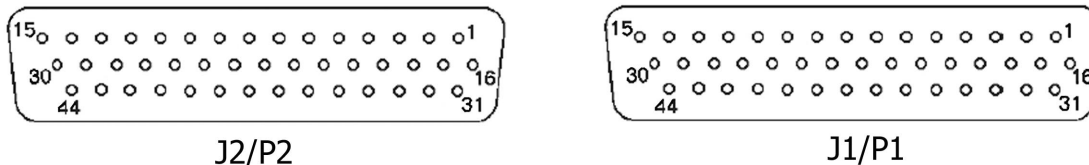

Figure 1
1. Gain access to the "P2" connector on the back of the GMA 340 audio panel . The "P2" connector attaches to the "J2" receptacle located on the back of the GMA 340 (See Figure 1).